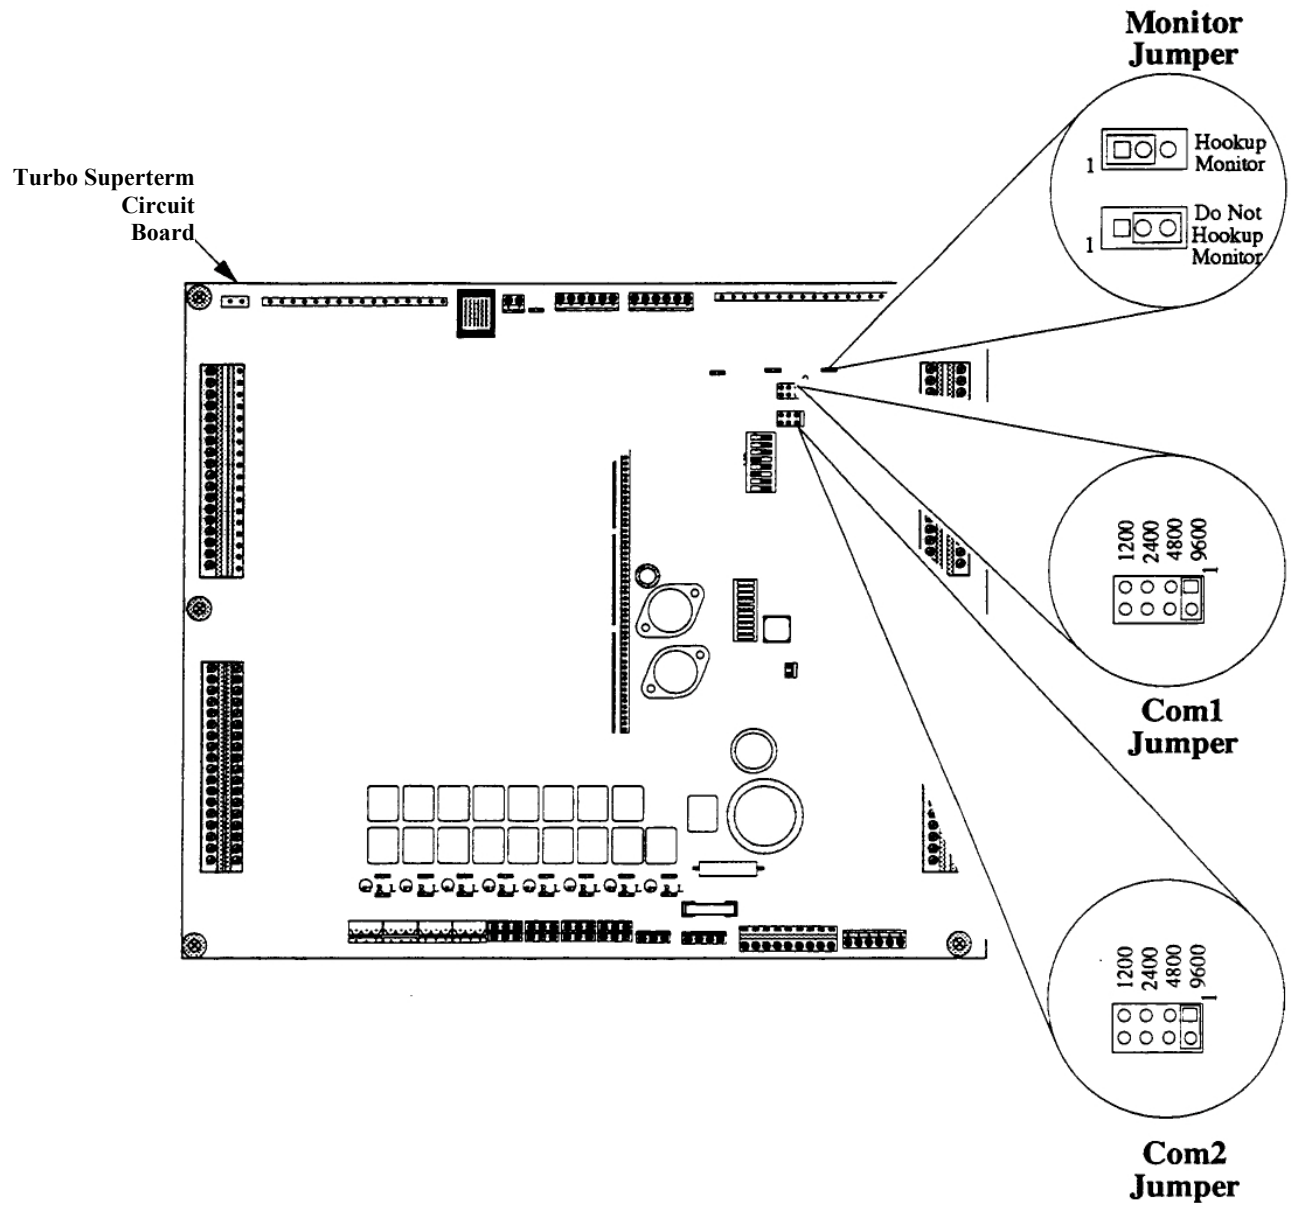

Figure 47 - COM1, COM2, and MONITOR Jumper Locations and Settings
- Set the COM1 jumper to contact the two posts adjacent to the desired baud rate (see Figure 47).
Set the COM2 jumper to contact the two posts adjacent to the desired baud rate (see Figure 47).
- Set the jumper to contact the center post (pin 2) and the lefthand post (pin 1) (see Figure 47).
- Set the jumper to contact the center post (pin 2) and the right-hand post (pin 3) (see Figure 47).